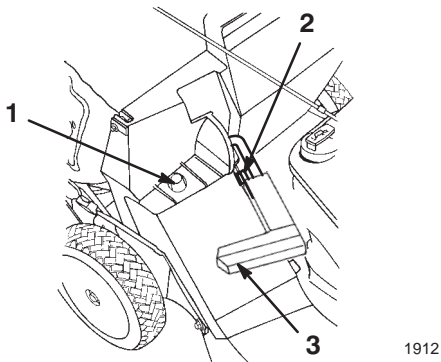

Figure 19
- Ensure that the discharge door handle is fully forward and that the pin is contacting the catch (Fig. 19).
- Slide the hole in the bag frame onto the retaining post on the housing (Fig. 19).
- Raise the discharge door handle and move it forward until the locking pin contacts the catch (Fig. 19).